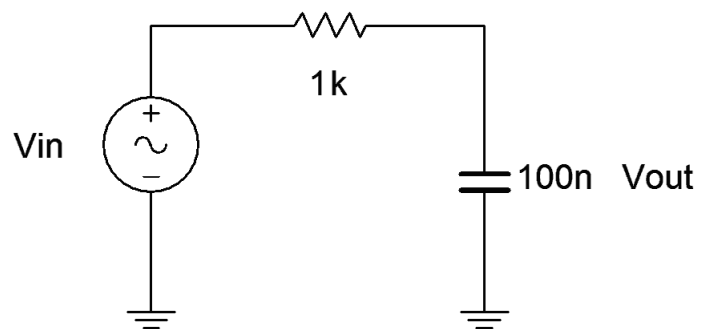

Figure 2
6. To create a simple Bode plot, the lag network of Figure 2 will be used. Assemble this circuit and record its theoretical critical frequency in Table 2.
14. Build the lag network of Figure 2 in Multisim and run an AC Analysis. Be sure to run this from at least one decade below the critical frequency to at least one decade above. Also, use a decibel scale for the gain amplitude. Compare the results to the Bode plot generated in Step 13 and include this graph with the technical report.